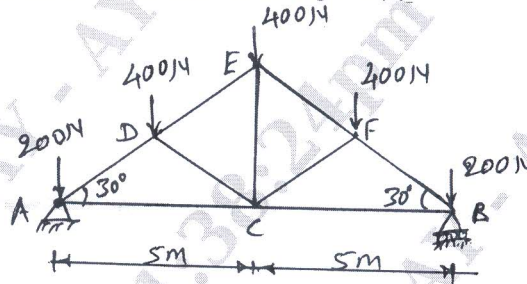

Fig Q2(c)
c. Find the forces in all members of truss shown in Fig Q2(c).